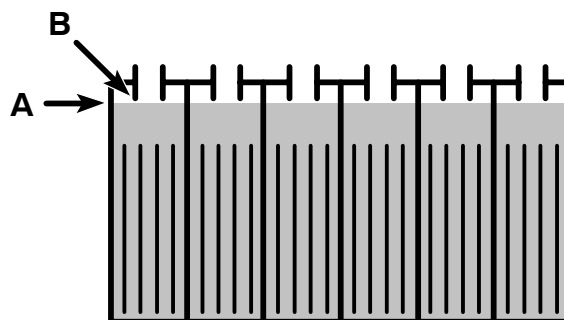

FIG. 55
- After charging, check the electrolyte level (A) again. The level should be approximately 1 cm from the bottom of the fill-port (B) (Figure 55). Add distilled water if needed. DO NOT OVERFILL.